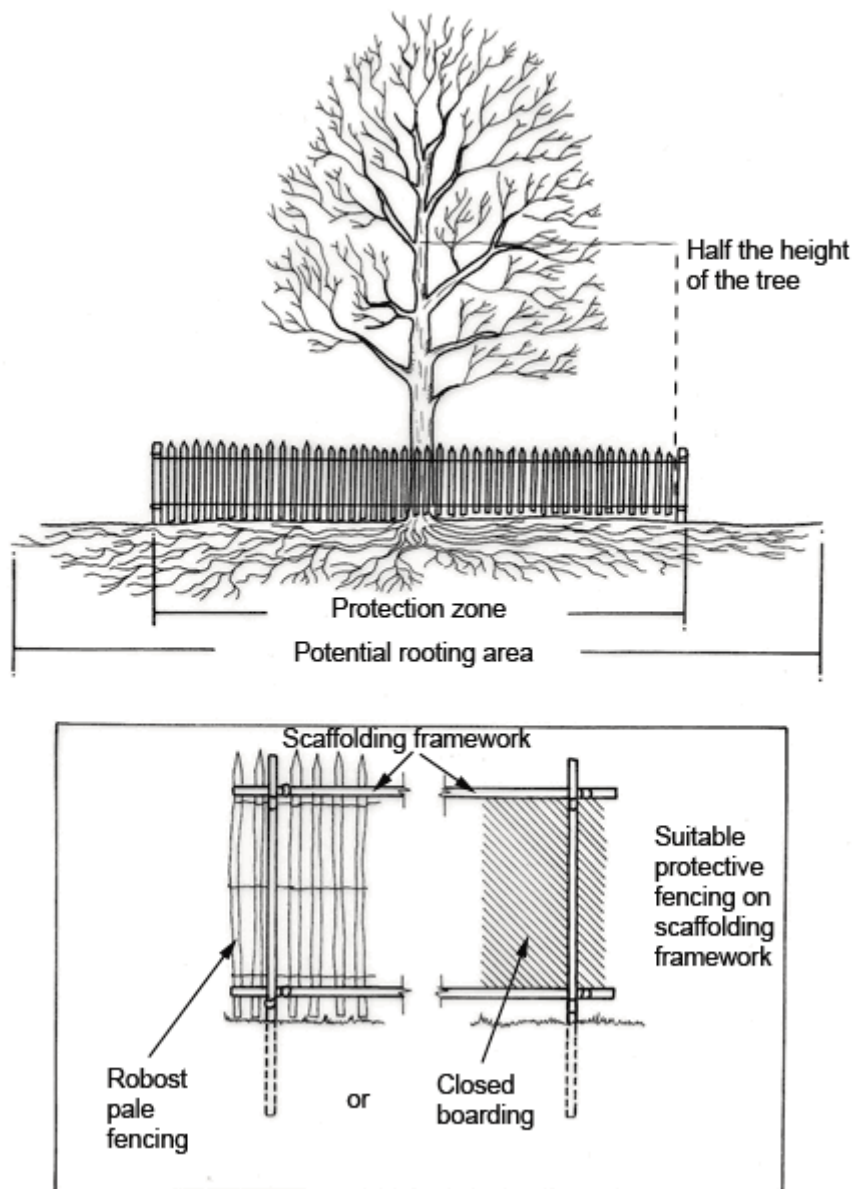

Figure RT4 Avoiding damage to trees
1.17 On larger schemes where you are retaining trees within the site area, you should erect protective fencing, as specified in Figure RT4, before the works begin. This fencing should stay up until the work is finished. It is essential that the protection zone is excluded from the construction site and all associated activities including excavations and changes of soil level. Areas where machinery, materials, chemicals and waste material are stored should also be excluded from the protection zone.